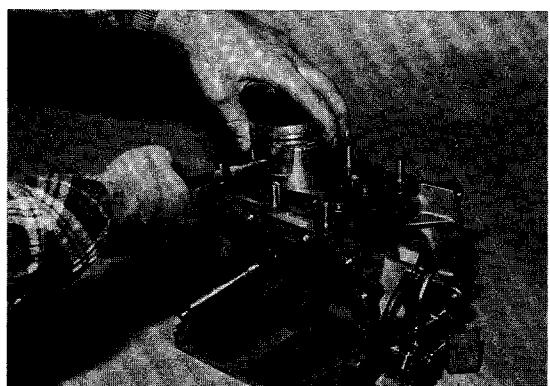

Figure 6-14
1. Remove both piston pin retaining rings (83) (**Figure 6-3**) with needle nose pliers (**Figure 6-14**).
2. Remove piston pin (86). Place punch against pin and tap lightly with a rubber mallet. Pin will slide out.